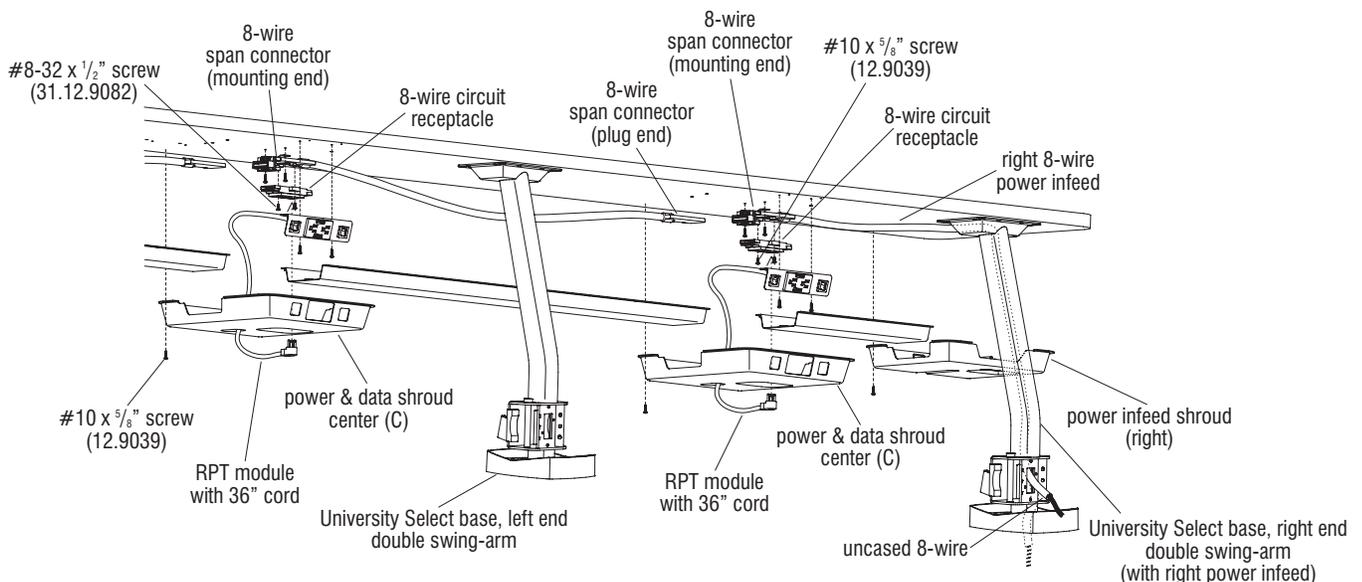

Figure 15 - Right 8-Wire Power Infeed with Single Swing-arm Ends (Power Infeed Detail)
- 47. At the underside of the University worksurface, locate the pre-drilled mounting holes, about midway between the two right-most University Select bases, near the power-infeed location (Figure 15 & Detail A, page 14). As illustrated, secure the mounting end of the right 8-wire power infeed to the underside of the worksurface with two #10 x 5/8” screws torqued to 25 in/lbs at the appropriate pre-drilled holes (Figure 15, Details A & B, page 15).
left, secure the mounting end of a 8-wire span connector to the underside of the worksurface using two #10 x 5/8” screws torqued to 25 in/lbs. Insert and click the plug-end of an 8-wire span connector into the mounting end of the power infeed. Per the space-planning layout, continue down the line installing all remaining span connector mounting ends to the worksurface between bases and clicking the plug ends into the appropriate mounting ends (Figures 15 & 16, Detail B, page 15).
- 49. Follow correct circuit designations and install 8-wire circuit receptacles to the mounting end of the power infeed and all 8-wire span connectors using two #8-32 x 1/2” screws provided and torque to 20 in/lbs (Figures 15 & 16, Detail B, page 15).
data bracket to the underside of the worksurface with two #10 x 5/8” screws torqued to 25 in/lbs (Figures 15 & 16).
- 52. Snap the appropriate style data jack adapters into the RPT & data bracket as illustrated. (See “Data Adapter Detail” on page 13 for identification of data adapter plates.) Per the space-planning layout, run data lines (customer supplied) up the appropriate base and then horizontally along the front, smaller partition of the power & data trough. Properly routed, the data lines will be separated from the line voltage flexible conduit by a divider in the power & data trough. Data line infeeds may be run up a University Select base in a different location than 8-wire power infeed, but will use a power infeed shroud the same as in power infeed locations (Figures 15 & 16). From behind the RPT & data bracket, snap the appropriate data lines into the data jack adapters.
53. Following the space-planning layout, install RPT modules by first routing the cord through the opening in the RPT & data bracket, then snap the module into place. Allow the 36" long receptacle cords to hang down until a later step (Figures 15 & 16).
the circuit receptacle. **"Left (L) power & data shrouds"** have both cut-outs at the bottom and only one cut-out at the right-hand side for a power & data trough (Figures 15 & 16).
55. Following the space-planning layout, locate the correct position for the two types of power & data shrouds along the run of worksurfaces. Position each shroud up to the worksurface and allow the cord of the student receptacle to drop down through the front-most cut-out as illustrated. Both the student receptacle and data jacks, as well as the bottom-facing circuit receptacle should protrude through their appropriate cut-outs in the shroud. Secure all power and data shrouds to the underside of the worksurface using #10 x 5/8" screws torqued to 25 in/lbs in pre-drilled holes at the underside of the worksurface (Figures 15 & 16, Details B & C, page 15).
56. At the power & data shroud locations, loop the hanging cord and insert the plug end of the RPT module into the bottom-facing circuit receptacle. Push any excess cord back into the shroud and out of the way (Figures 15 & 16).
57. At the power infeed location, position the power infeed shroud (right-end, with cut-outs on only the left side for power & data troughs) up into position, making sure the troughs fit into it correctly and that the shroud back mates correctly with the base's upper mounting flange. With a pencil, mark the mounting hole locations, then use a 1/8" diameter drill bit and pre-drill to 1/2" depth, taking care to not penetrate the worksurface. Install power infeed shroud using #10 x 5/8" screws provided and torque to 25 in/lbs (Figures 15 & 16).